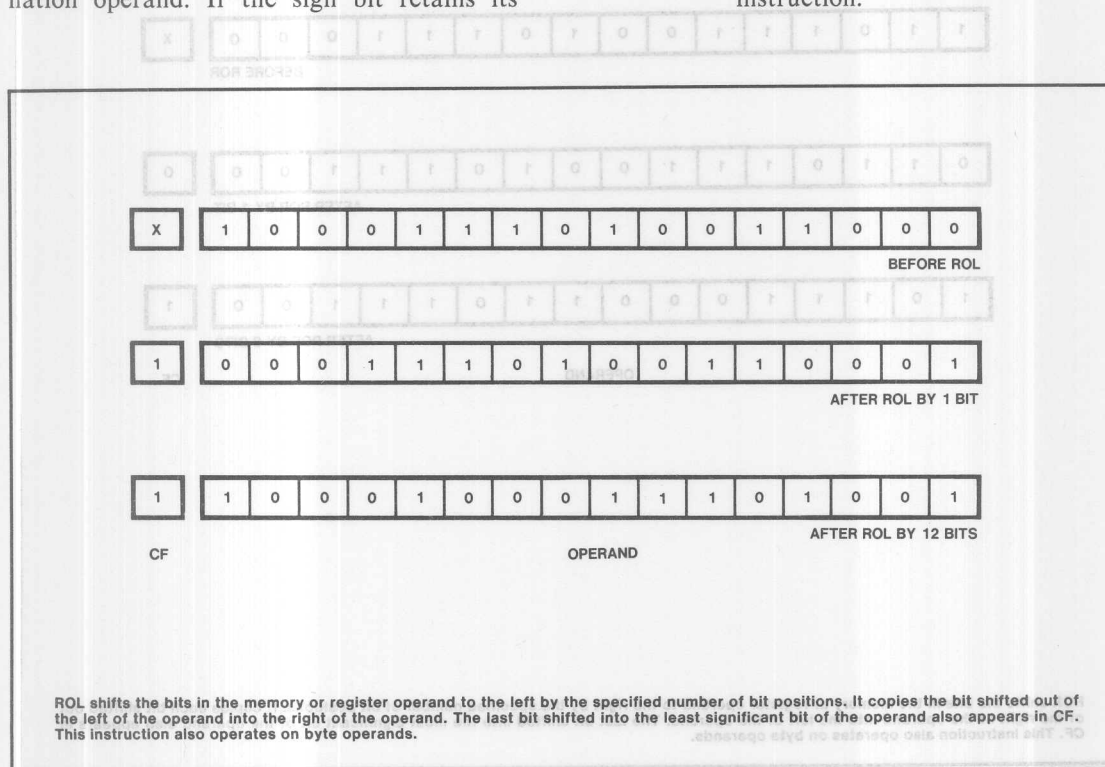

Figure 3-8. ROL
**ROL (Rotate Left)** rotates the byte or word destination operand left by one or by the number of bits specified in the count operand (an immediate value or the value contained in CL). For each rotation specified, the high-order bit that exists from the left of the operand returns at the right to become the new low-order bit of the operand. See figure 3-8.